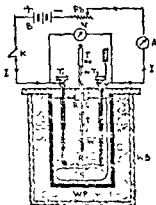

Fig. 19-1
4. Make the connections as shown in the figure 19-1. It will require a battery of three or four lead accumulators joined in series. See that positive terminal of the voltmeter and of the ammeter are connected directly or indirectly through other instruments to the positive pole of the battery.